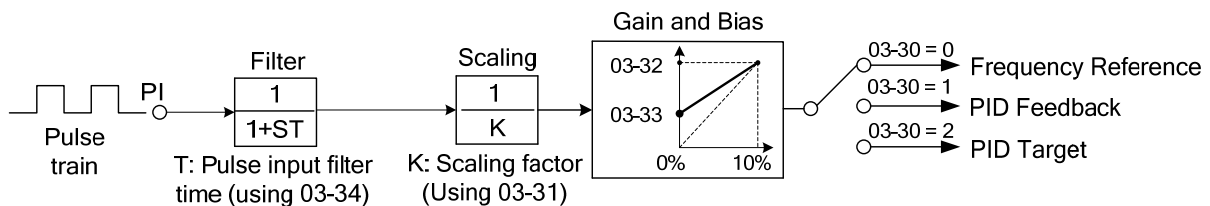

Figure 4.4.27 Pulse input adjustment
- * Refer to figure 4.4.27 for the pulse input specification.